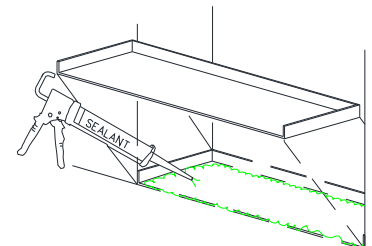

Figure 5:
- Secure the sillpan to the floor with glue. Position sillpan as necessary to allow for proper installation of frame assembly (Figure 5).